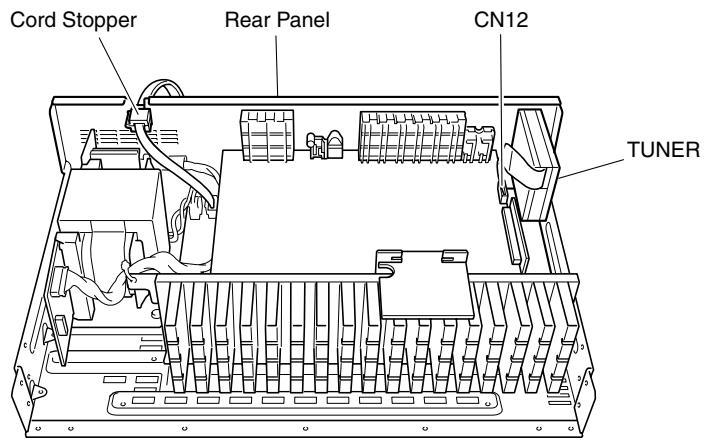

Fig. 2
- a. Remove CN12. (Fig. 2)
- c. Remove Tuner. (Fig. 2)
- g. Remove Cord Stopper. (Fig. 2)
- h. Remove Rear Panel. (Fig. 2)